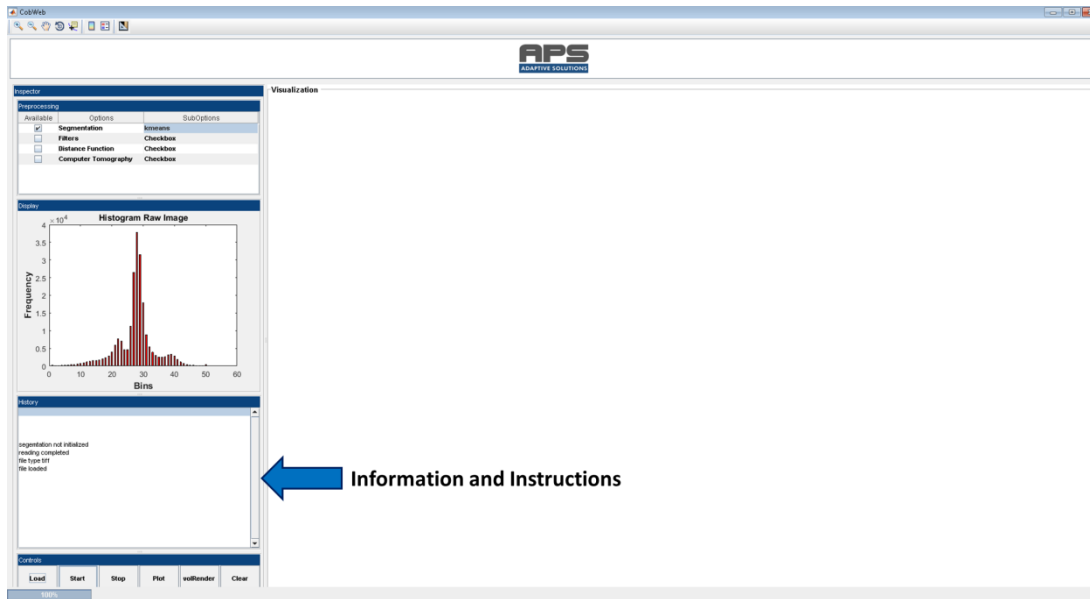

Figure 17: Files loaded
- Figure 17: The colour of the **Load** button turns transparent when the loading/reading is finished.
- Figure 17: Information, such as the data type and the next steps, is displayed in the history panel.